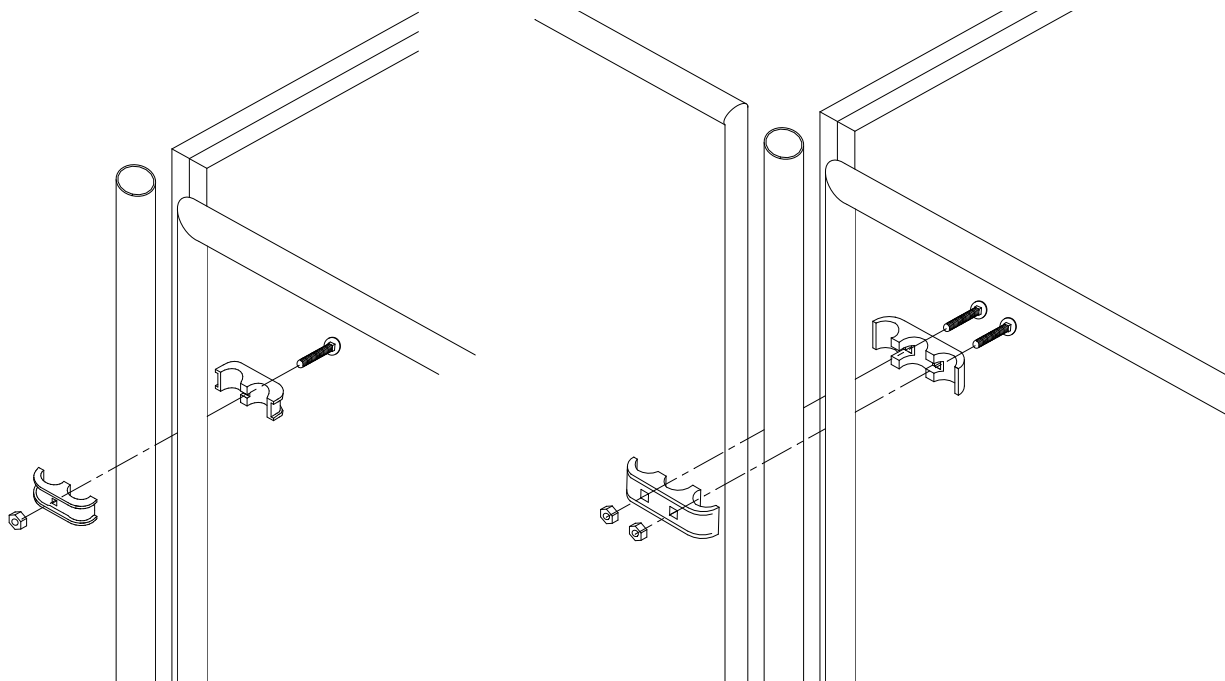
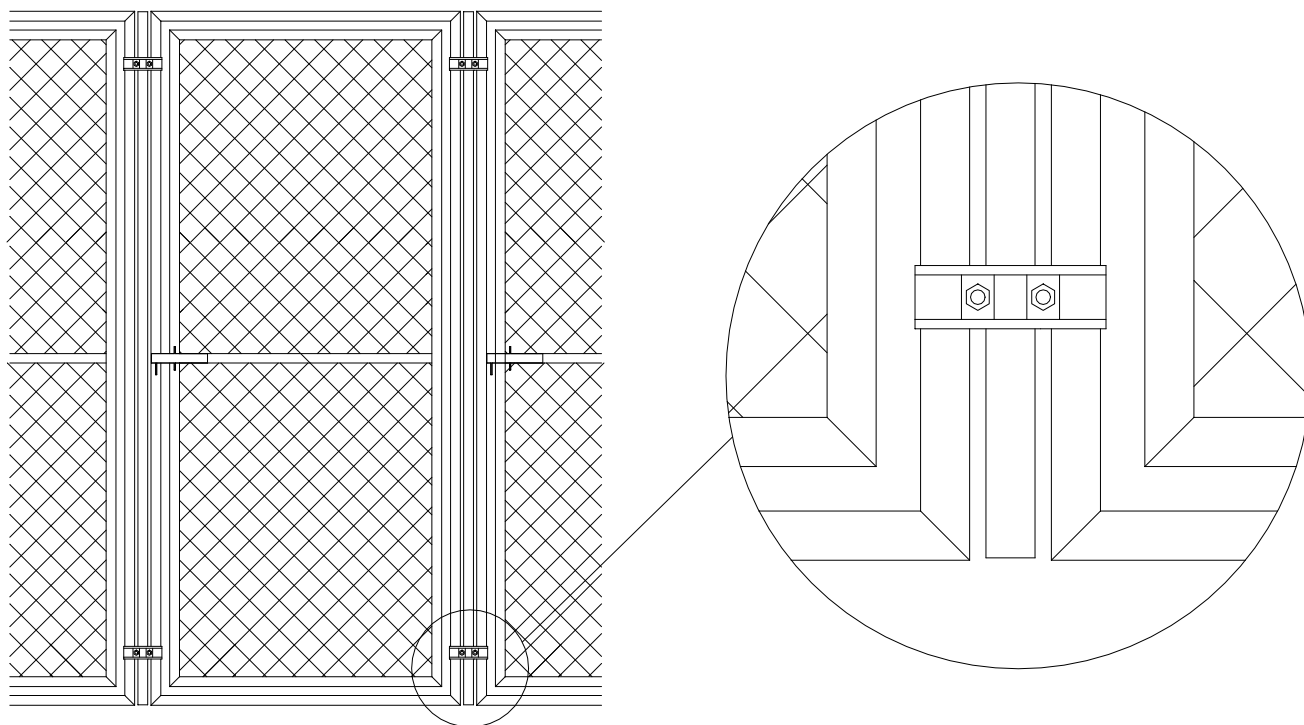

Figure 10
Figure 11
2. Attach the gate/stall front on the front of each run between the filler pipes with two clamps on each side using the 5/16" x 1-1/2" bolts and nuts provided as shown in Figure 10. Note: It takes two halves to make up one clamp. Attach gates/stall fronts to outside division panels using "panel clamps". All other gates/stall fronts will use "triple clamps". **To help ensure the safety of the animals the round head of the bolt should be assembled toward the inside of the run.** Note: The triple clamps attach two gates/stall fronts together. Therefore, you will have to hang two gates/stall fronts at the same time (see Figure 11).